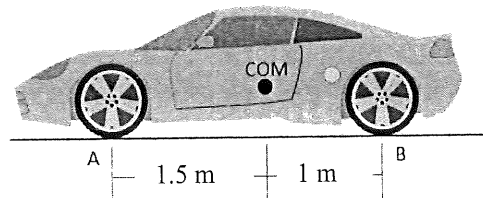

Figure 1
a) The car in Figure 1 has a weight of 680 kg with the center of mass 1.5 m behind the front wheels of the car.